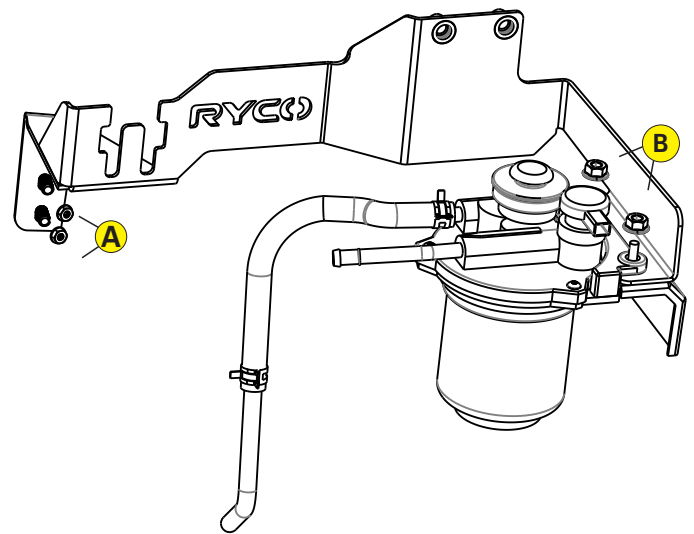

FIG. 2 BRACKET INSTALLATION
2. Locate the factory fuel filter on the passenger side of the engine bay. Remove the two nuts (marked B in Fig. 2) securing the factory filter to the vehicle. Lift the factory filter housing and fit Ryco filter metal bracket in the same position as the factory fuel filter. Aligning the other end of the Ryco bracket holes to the wiring harness bracket studs. Place the factory filter housing on top of the Ryco filter bracket and loosely refit factory nuts previously removed. Secure the bracket onto the firewall by loosely installing two factory nuts (marked A in Fig. 2).